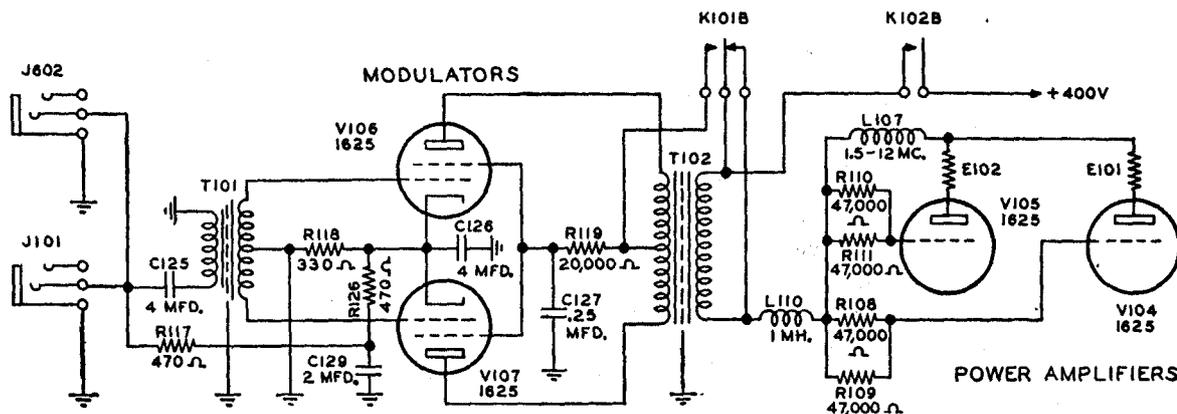

Fig. 4. Modulator Circuit (Dwg. 500 0138 00A)
2.2.6.1. Refer to Figure 4. The modulator, employing two Type 1625 beam pentode tubes, makes up the audio system of this transmitter. The two modulator tubes, V106 and V107, are connected in push-pull and operate Class B. The output of the microphone is coupled to the grids of the modulator tubes by transformer T101. Cathode bias and voltage for the microphone is developed across the cathode resistor, R118. Jacks J101 on the transmitter panel and J602 in